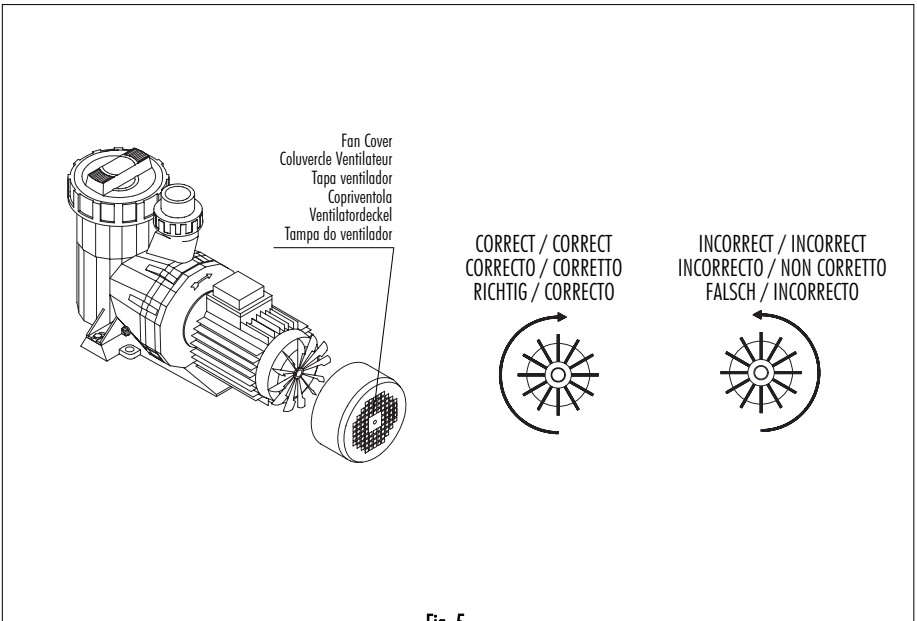

Fig. 5
- Check that the motor rotates in the correct direction by means of the fan located at the back of the motor that can be seen through the view hole on the fan cover (Fig. 5).